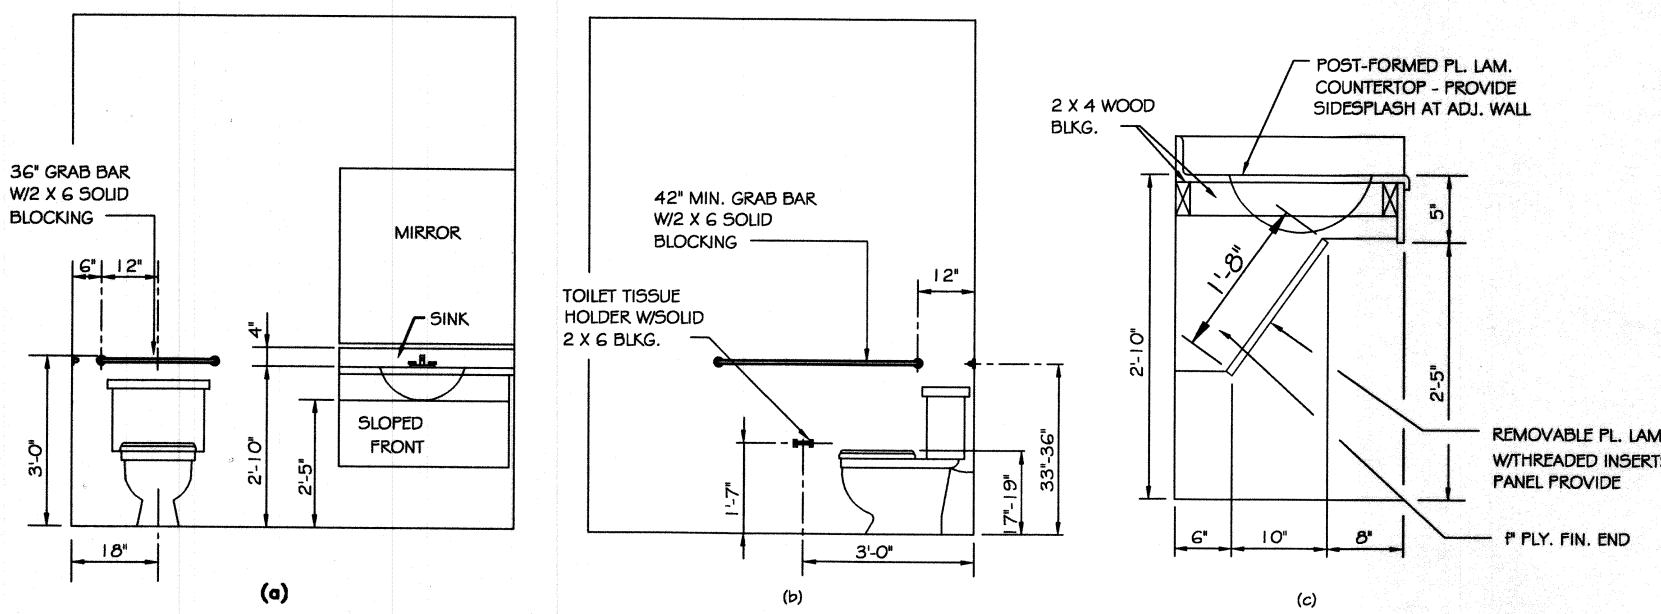

FIG. 31
- 4.16.3 HEIGHT. THE HEIGHT OF WATER CLOSETS SHALL BE 17" TO 19" (430mm TO 485mm), MEASURED TO THE TOP OF THE TOILET SEAT. SEATS SHALL NOT BE SPRING TO RETURN TO A LIFTED POSITION (SEE FIG. 31).
- 4.16.4 GRAB BARS. GRAB BARS FOR WATER CLOSETS NOT LOCATED IN STALL SHALL COMPLY WITH 4.26 AND FIG. 31. THE GRAB BAR BEHIND THE WATER CLOSET SHALL BE 36" (915mm) MINIMUM.
- 4.16.6 DISPENSERS. TOILET PAPER DISPENSERS SHALL BE INSTALLED WITHIN REACH, AS SHOWN IN FIG. 31. DISPENSERS THAT CONTROL, DRIVE, OR THAT DO NOT PERMIT CONTINUOUS PAPER FLOW, SHALL NOT BE USED.
- 4.17.6 GRAB BARS. GRAB BARS MAY BE MOUNTED WITH ANY DESIRED METHOD AS LONG AS THEY HAVE A GRIPPING SURFACE AT THE LOCATIONS SHOWN IN FIG. 31 AND DO NOT OBSTRUCT THE REQUIRED CLEAR FLOOR AREA. GRAB BARS SHALL COMPLY WITH 4.26.
- 4.19.2 HEIGHT & CLEARANCES. LAVATORIES SHALL BE MOUNTED WITH THE RIM OR COUNTER SURFACE NO HIGHER THAN 34" (865mm) ABOVE THE FINISH FLOOR. PROVIDE A CLEARANCE OF AT LEAST 29" (735mm) ABOVE THE FINISH FLOOR TO THE BOTTOM OF THE WAPON (SEE FIG. 31).
- 4.19.6 MIRRORS. MIRRORS SHALL BE MOUNTED WITH THE BOTTOM EDGE OF THE REFLECTING SURFACE NO HIGHER THAN 40" (1015mm) ABOVE THE FINISH FLOOR (SEE FIG. 31).